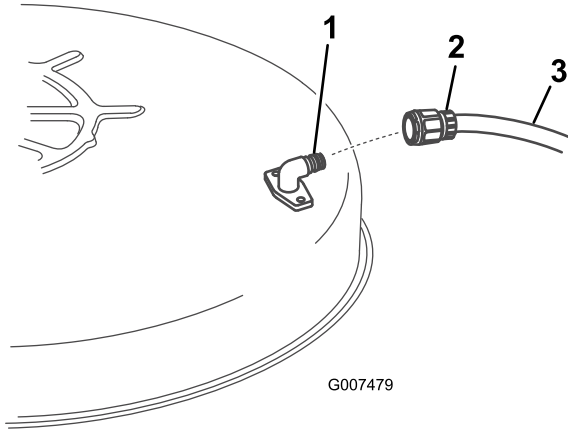

Figure 36
5. Attach the hose coupling to the end of the mower washout fitting and turn the water on high (Figure 36).